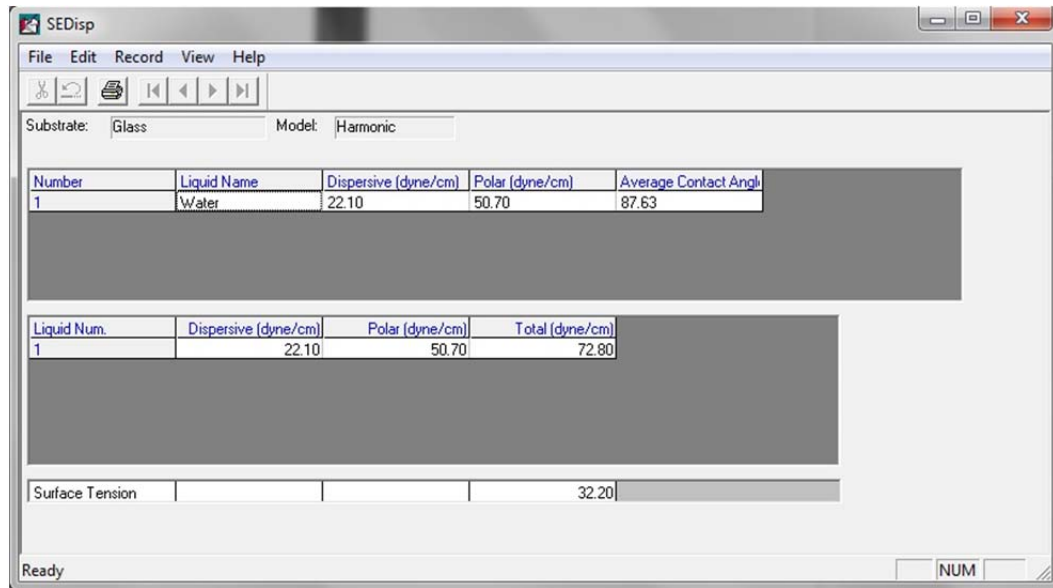

Figure 11: SE2500 for surface energy calculation.
- There are 3 models for calculation, Geometric-Mean Method, Harmonic Mean Method, and Acid-Base Theory. After you click “Calculate”, the result will be shown as in Figure 11.